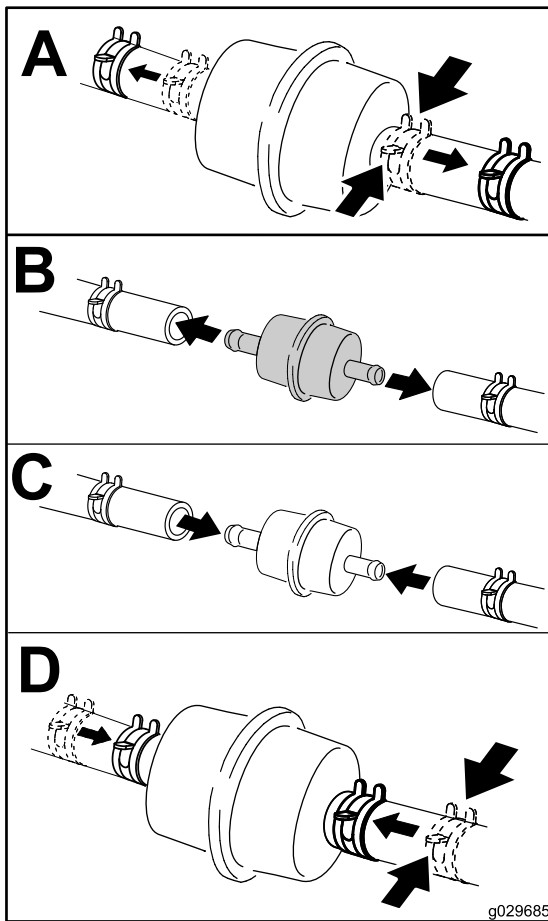

Figure 56
5. Replace the fuel filter (Figure 56).